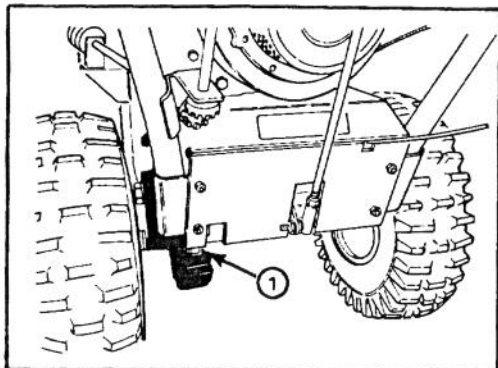

Figure 18
3. Loosen hose clamps securing fuel line to valve and slide line off valve (Fig. 18).
1. Annually, lubricate drive chain with chain lubricant (Fig. 18). Wipe up any excess oil.